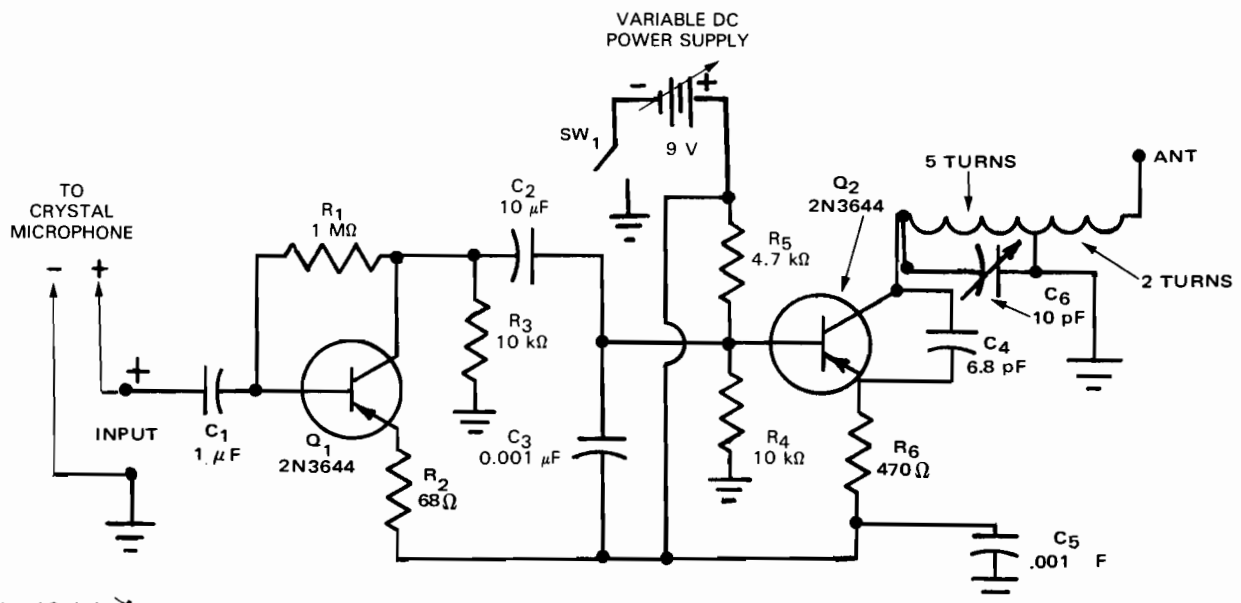

Fig. 19-4-1
1. Connect FM transmitter module like that which is shown in Fig. 19-4-1.